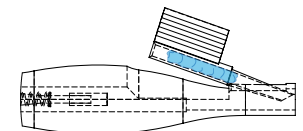
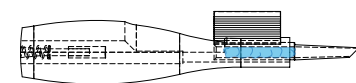

Figure 9
Figure 10
9. Retract the silicone-tipped plunger and guide the cartridge into the opening at the front end of the injector (Figure 9) and push the cartridge to the foremost position (Figure 10).